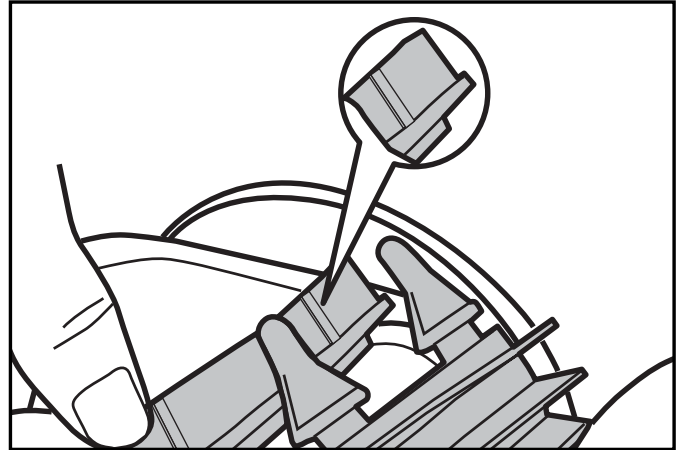

Figure 14. Wear Indicators
The cleaner is fitted with a TPE brush in front. There are "wear" indicators (Figure 14) on the brushes. To maintain cleaner performance at its best you need to replace the brush as soon as one of the wear indicators has been reached (even if the blade wear is not even). Zodiac Pool Systems, Inc. recommends that you replace the brush every two (2) years.